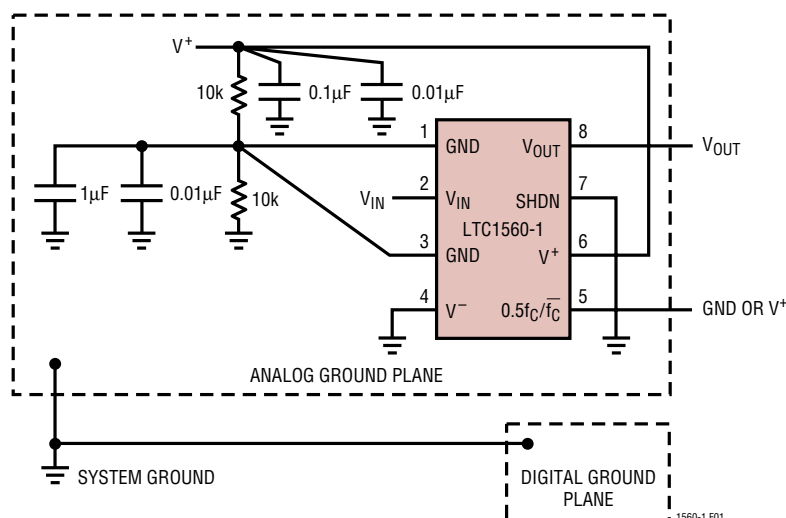

Figure 1. Connections for Single Supply Operation
**GND (Pins 1, 3):** Analog Ground Pins. The quality of the analog ground can affect the filter performance. For dual supply operation the analog ground pin should be connected to an analog ground plane surrounding the package. The analog ground plane should be connected to a digital ground plane (if any) at a single point. For single supply operation, the analog ground pin should be biased at one-half the power supply across the device (see Figure 1) and the analog ground plane should then be connected to  $V^-$  (Pin 4).